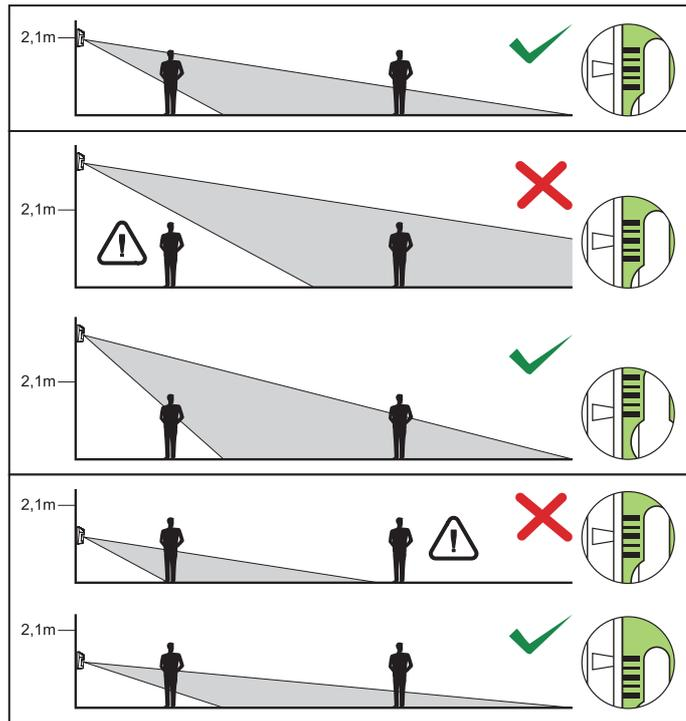

Figure 4. The controlled area depending on the detector installation height and positioning of pyroelement in relation to the lens for the optimal setting.
- scale for positioning of pyroelement against the lens (see Table 2 and Figure 4).
- Fasten the electronics board, taking into consideration the height of detector installation (see Table 2 and Figure 4).